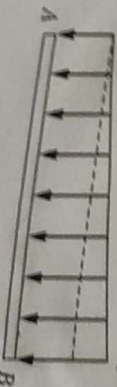

Fig. 25.9
**Uniformly Varying Load.** A load whose intensity of loading varies linearly or at constant rate along the length. In triangular load (Fig. 25.8) for example, it increases from zero at one end to some value at other end at a constant rate. A trapezoidal loading (Fig. 25.9) is a combination of uniform and triangular loading.